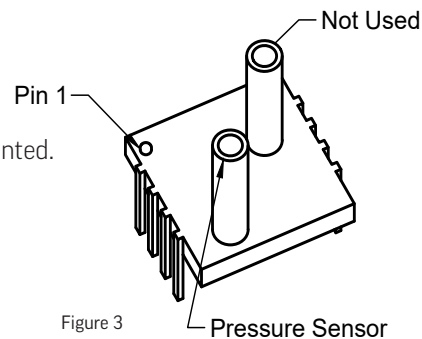

Figure 3
11. Replace the CO₂ tubing if needed. See Figure 3 for the pressure sensor location.